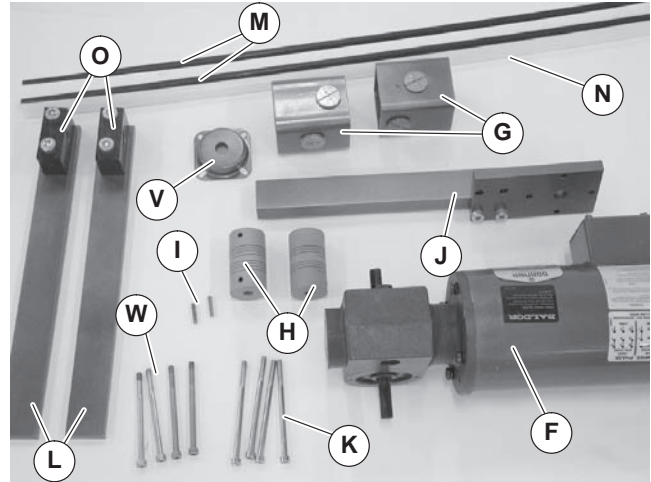
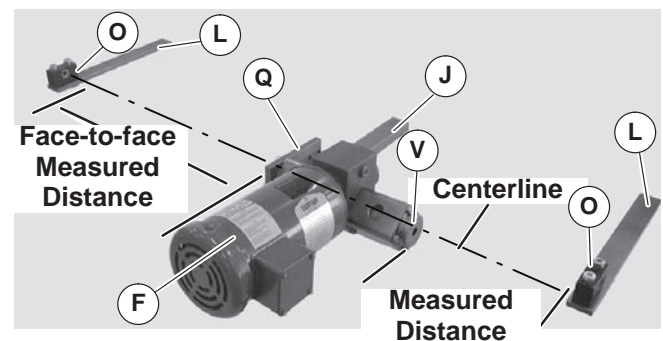

Figure 11
Figure 18
- Gather components (Figure 11).
Mounting holes are not provided. Ensure that gearmotor assembly (Figure 18, item J) and bearing support assembly (L) are parallel and center-line of coupling matches center-line of bearing block (O).
8. Attach gearmotor assembly (Figure 18, item J) and bearing support assemblies (L) to mounting surface.
- Cut hex shafts (Figure 11, item M) to measured distances (Figure 18) plus 2-1/8" (54 mm) on both sides of gearmotor assembly.